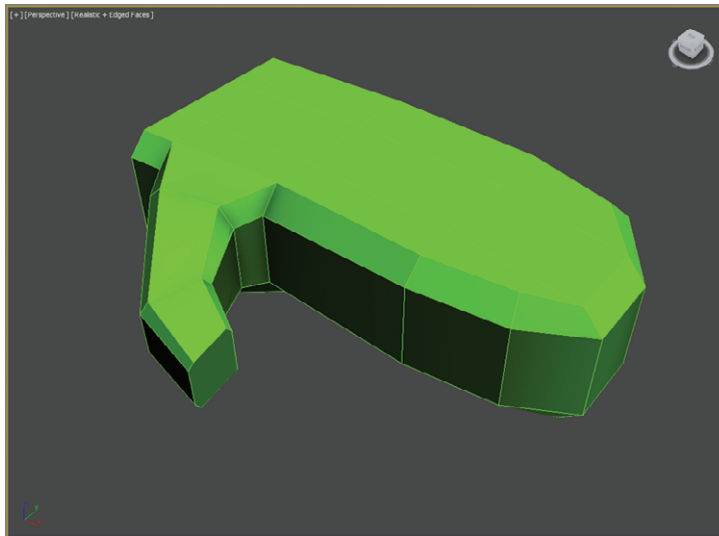

FIGURE 8.30 The thumb with all its joints
15. Adjust the polygons, vertices, and edges to get the thumb to look like Figure 8.30.